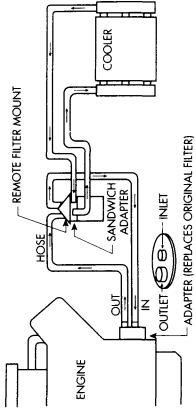

FIG. 5
## Remote Adapter With Thermostatic Sandwich Adapter (Fig. 5)
3. Refer to Fig. 5 and engine oil cooler instruction sheet for cooler installation and hose routing.